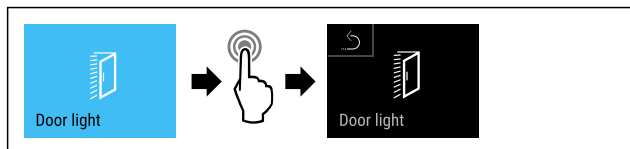

Fig. 96
- ▶ Complete the steps (see Fig. 96).